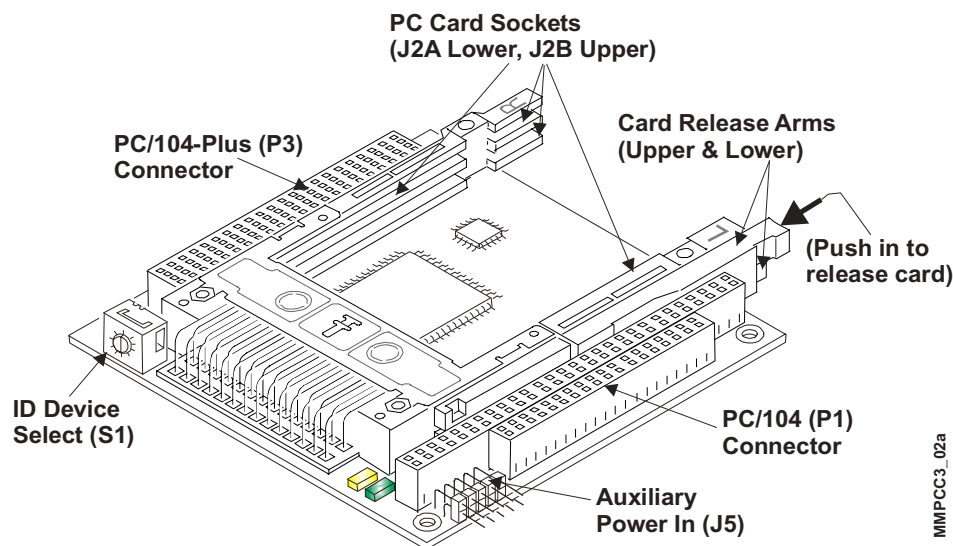

Figure 2-3. MiniModule PCC III
17) Set the Device ID in the stack, if known.	The Device ID Select switch (S1) is used to configure the PCI position of MiniModule PCC III in the board stack. Refer to Figure 2-3, Table 2-1, and Table 3-3 in Chapter 3, Product Overview for more information.